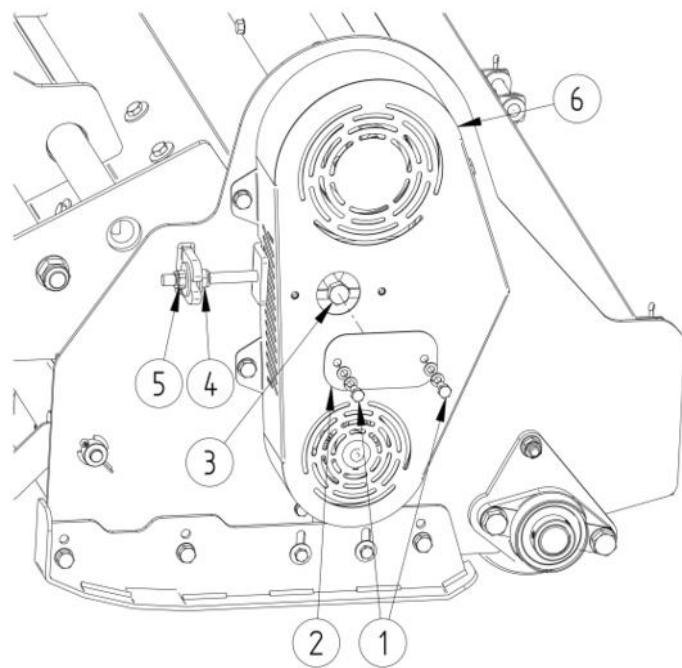

Fig 6. Belt tensioning scheme
All the spots marked on the fig. 6, are equipped with ball grease nipples, fill with grease ŁT43 using a grease gun.
- grease the machine according to the greasing diagram (fig. 6).